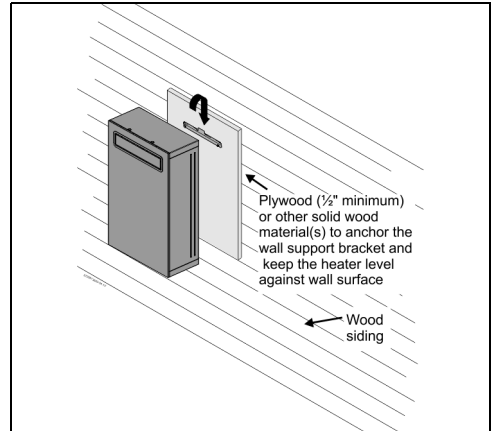

Fig. 6 Installation on wood siding
- The water heater is approved for installation directly on an outside wall. Secure the wall mounting bracket provided with the water heater to a wall surface. See fig. 6.